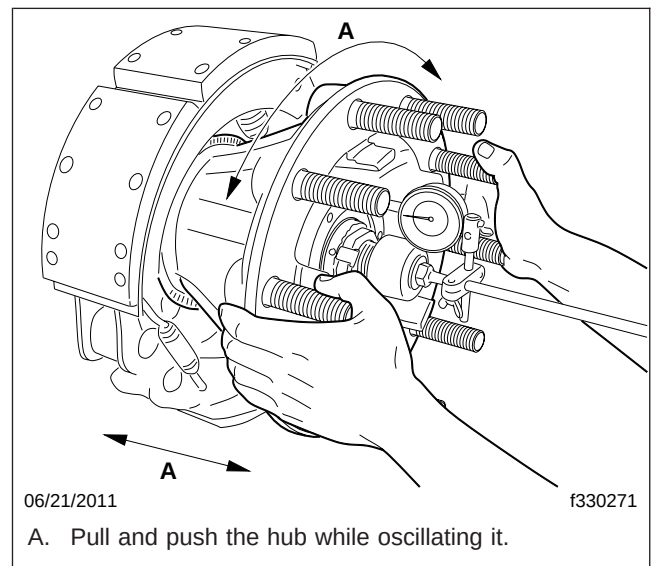

Fig. 2, Measuring End Play
2. To seat the bearings, grip the hub at the three o'clock and nine o'clock positions, and push inward while oscillating it approximately 45 degrees. Maintain pressure on the hub, note the inboard measurement, and then pull the hub outward while oscillating it as before. Maintain pressure on the hub, and note the outboard measurement. See Fig. 2.